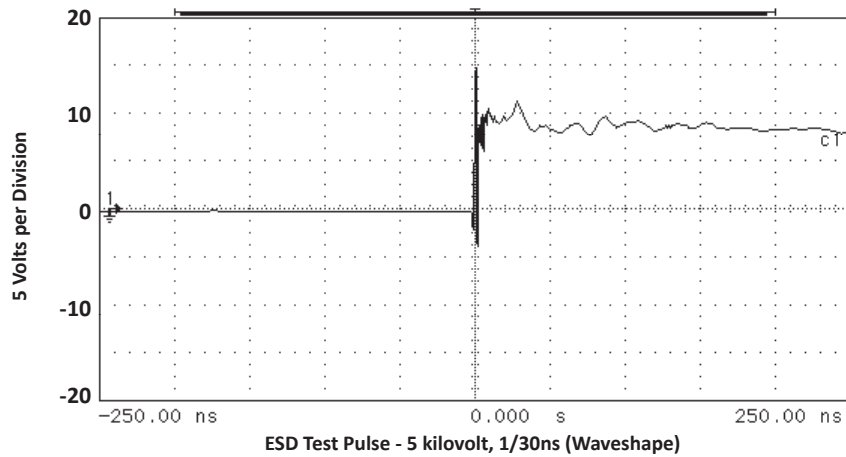

FIGURE 5
- As shown in Figure 5, REF 1 is connected to ground, REF 2 is connected to + V_{CC} and input applies to $V_{CC} = 5V, V_{SIGN} = 30mV, F = 1MHz$.